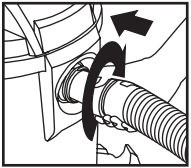

FIGURE 27
36. Reinsert hose into inlet and tighten the locking-nut. **FIGURE 27.**